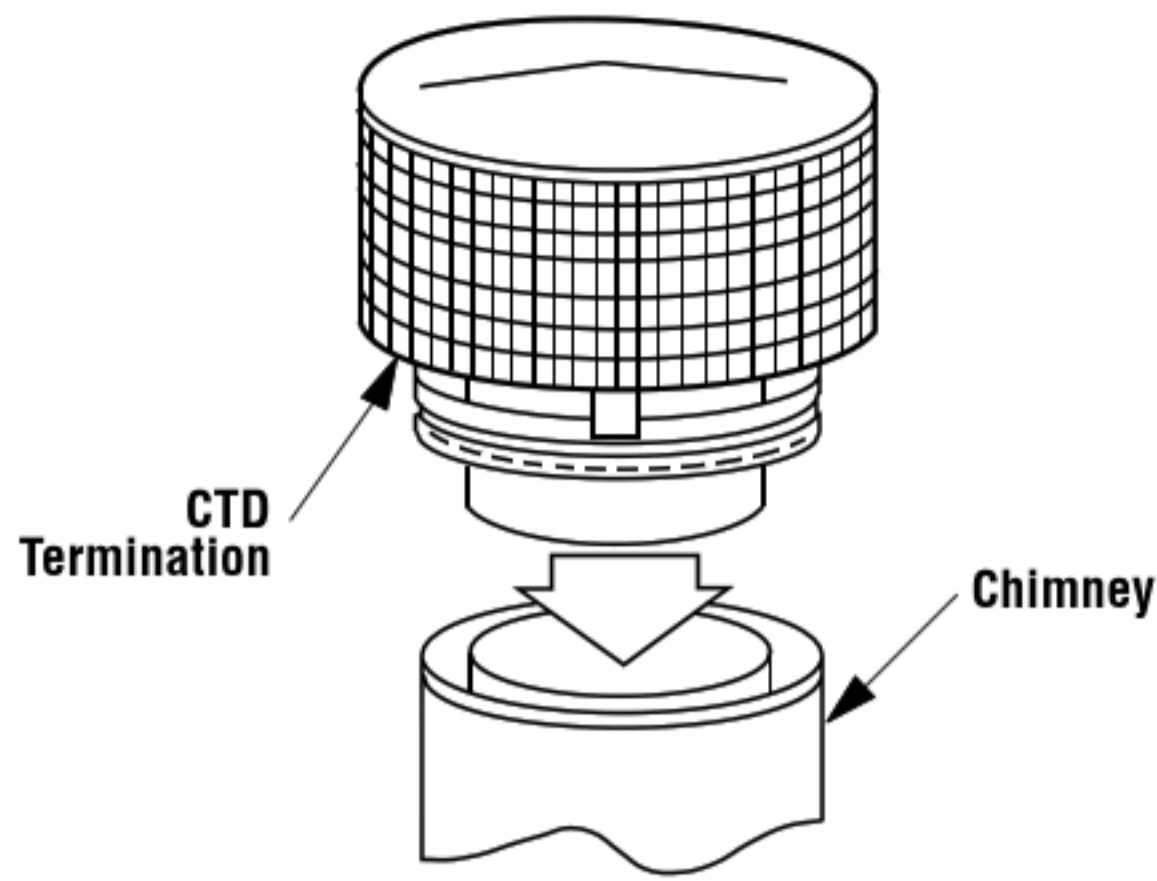

Figure 34
1. Hold the FTF8-CTD over top of last chimney section (*see Figure 34*).